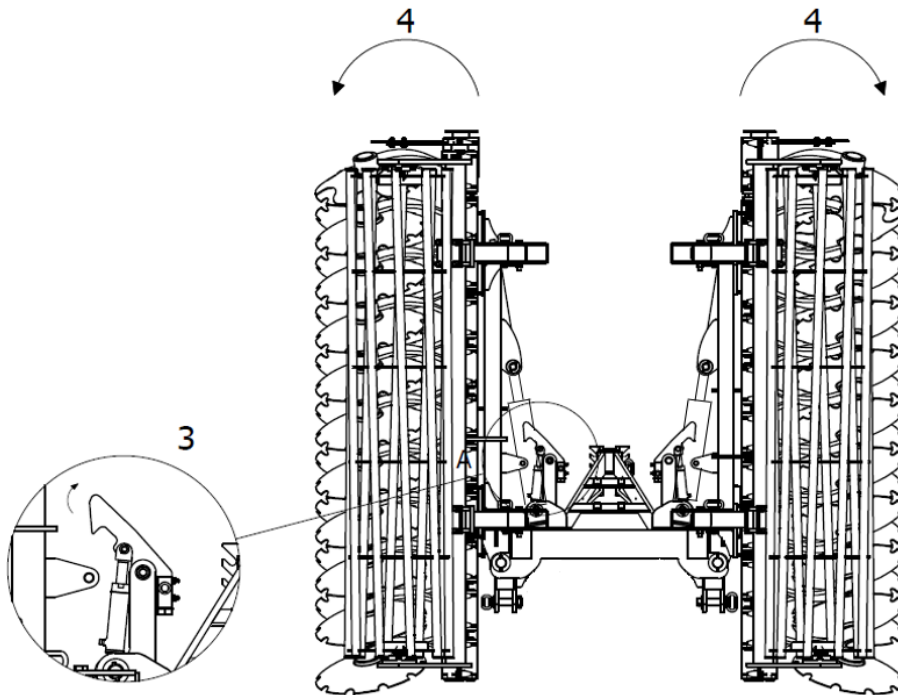

Figure 17 Machine opening sequence (3 - release of the hook of the hydraulic wing lock mechanism, 4 - opening of the machine wings)
3) Unlock the wing locking mechanism (fig. 17)